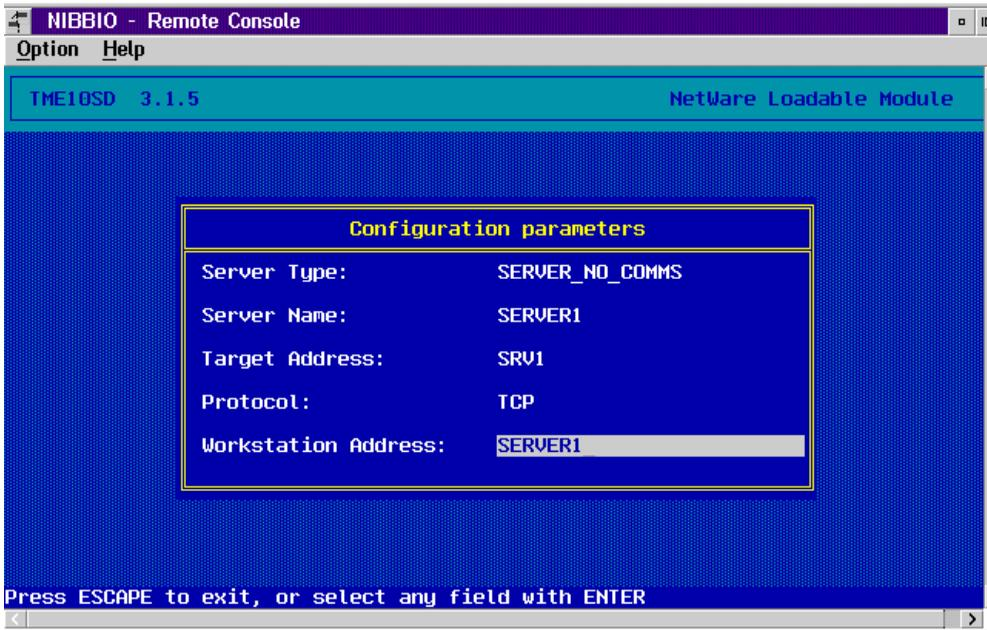

Figure 7. Configuration parameters for a TME 10 Software Distribution Server
- 9 The Configuration parameters menu is displayed, as shown in Figure 7 on page 50.